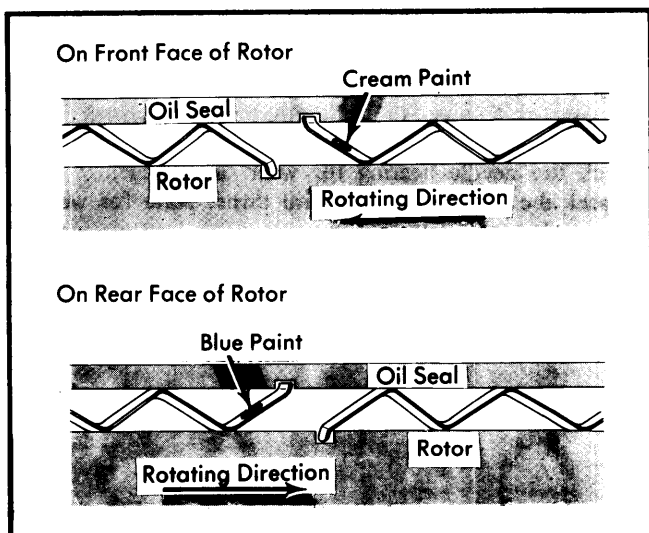

Fig. 17 Installing Oil Seal Spring on Rotor
1) Place rotor on rubber pad or cloth. Install oil seal springs in their respective grooves on rotors, with each edge of spring fitted in stopper hole. Ensure oil seal springs have been painted in cream or blue color: cream colored springs must be placed on front faces of both rotors and blue springs on rear faces of rotors. When installing, painted side of spring must face oil seal (upward), Fig. 17.